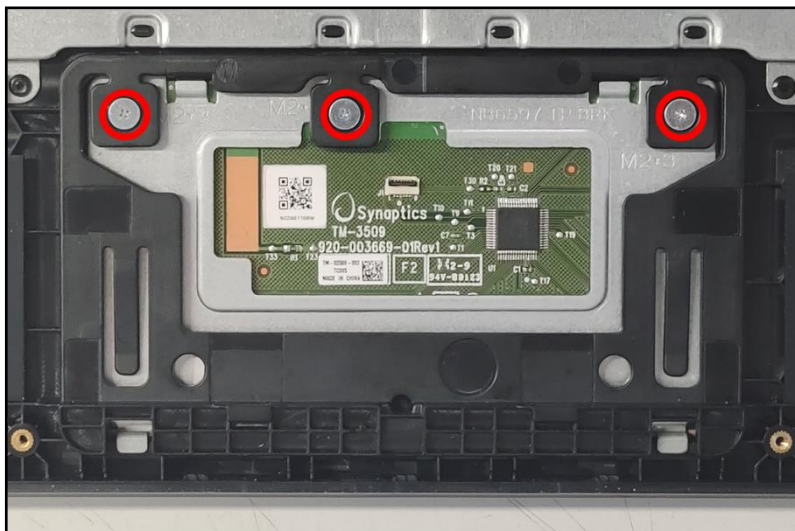

Figure 3-109. Replacing the Touchpad Module
3. Install three (3) screws to secure the touchpad module in place (Figure 3-109).